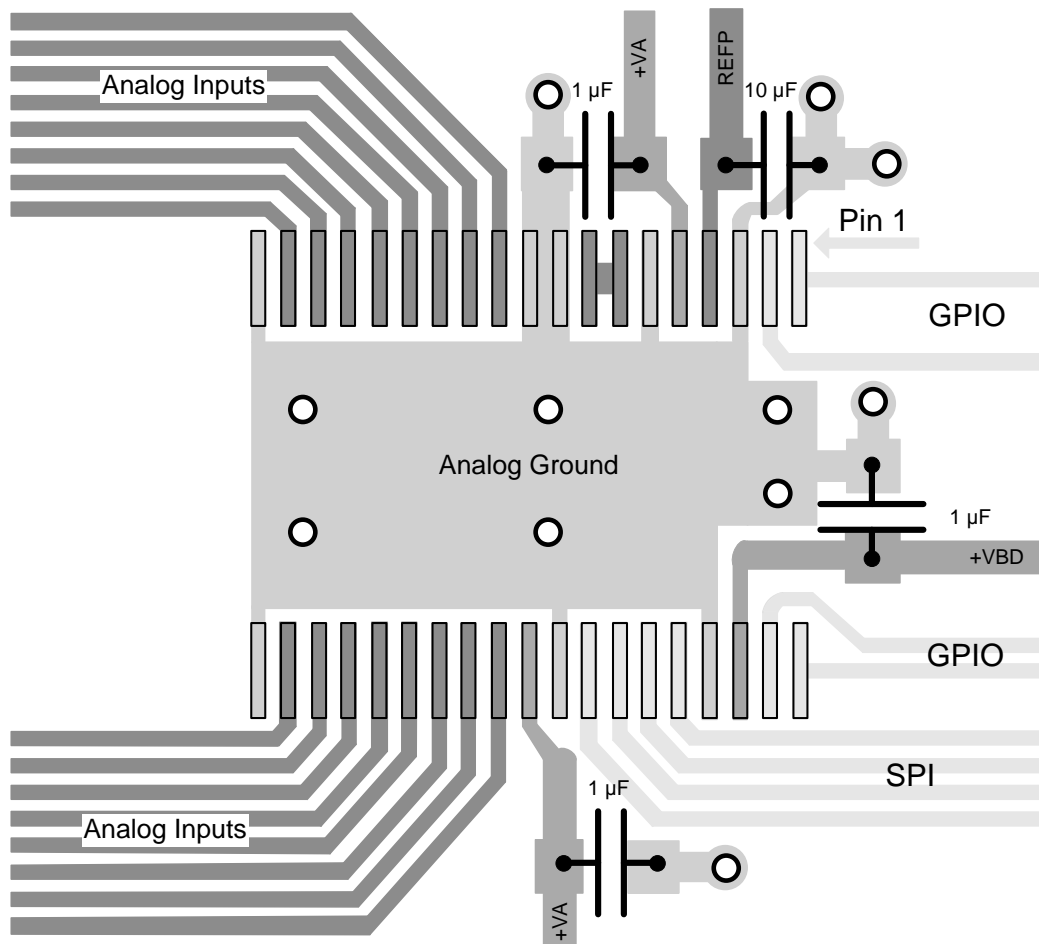

Figure 66. Recommended Layout
- The power sources must be clean and properly decoupled by placing a capacitor close to each of the three supply pins, as shown in Figure 66. To minimize ground inductance, ensure that each capacitor ground pin is connected to a grounding via by a very short and thick trace.
- The REFP pin requires a 10- $\mu$ F ceramic capacitor to meet performance specifications. Place the capacitor directly next to the device. This capacitor ground pin must be routed to the REFM pin by a very short trace, as shown in Figure 66.
The full-power bandwidth of the converter makes the ADC sensitive to high frequencies in digital lines. Organize components in the PCB by keeping digital lines apart from the analog signal paths. This design configuration is critical to minimize crosstalk. For example, in Figure 66, input drivers are expected to be on the left of the converter and the microcontroller on the right.